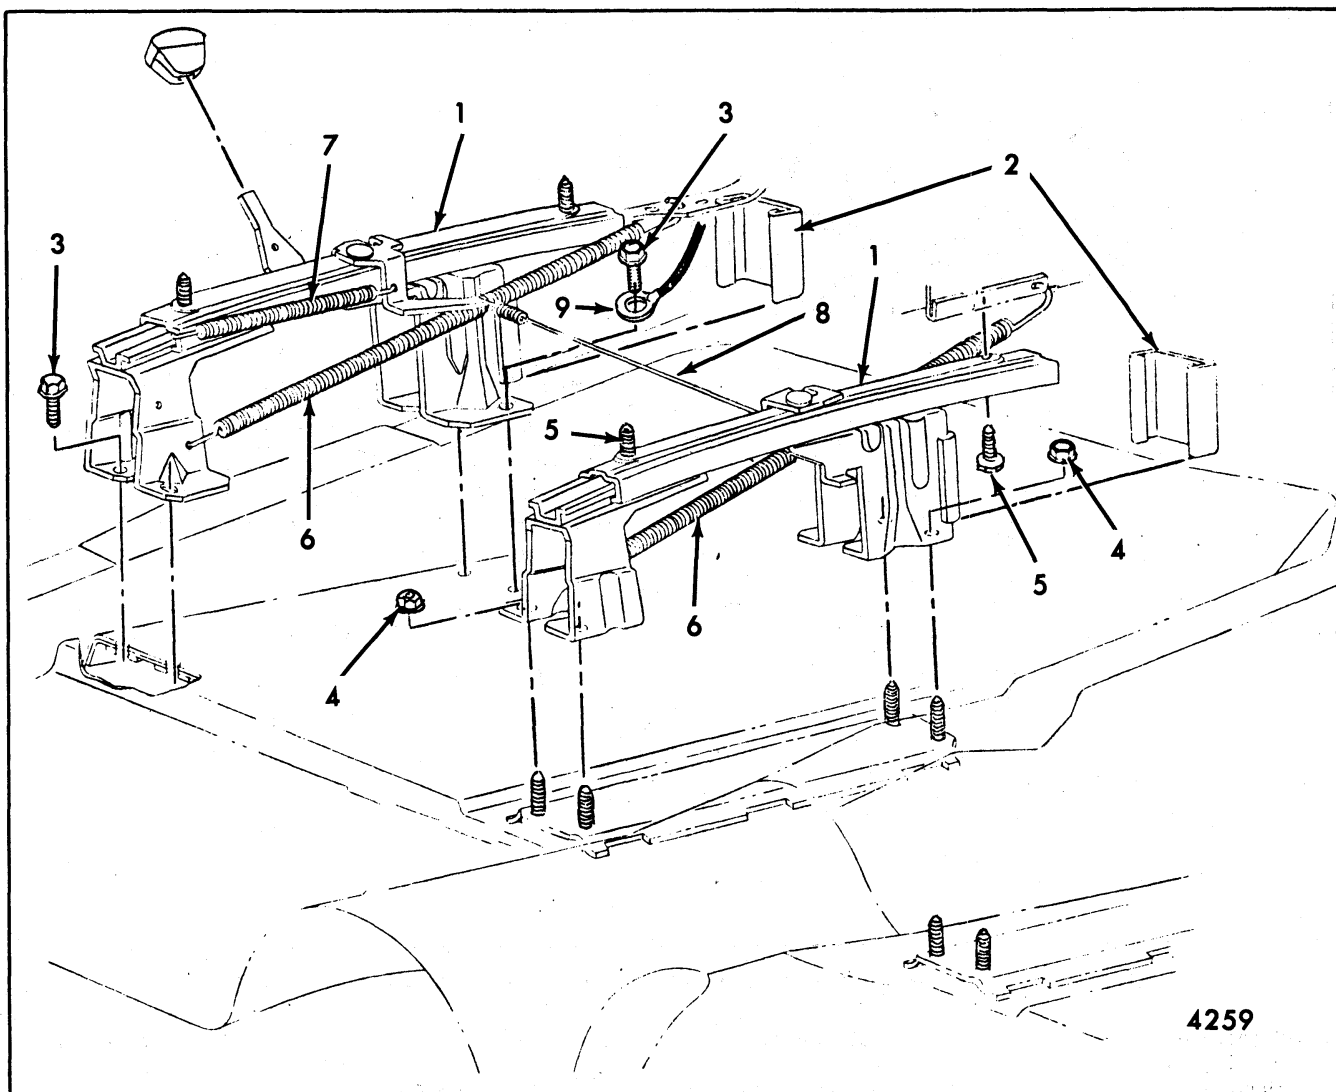

Fig. 9-10-60-40, 50-50 and 40-40 Manual Adjusters (60-40 Passenger Side Shown - Driver's Seat 50-50 and 40-40 Seats Typical)
3. Fig. 9-10-60-40, 50-50 and 40-40 Manually Operated Seat
3. Fig. 9-10-60-40, 50-50 and 40-40 Manually Operated Seat Adjusters